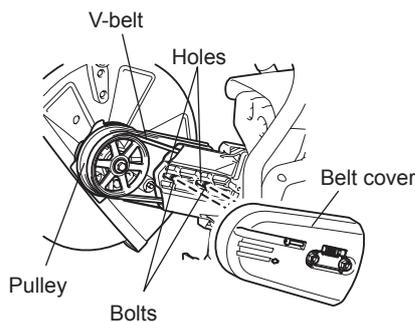

Fig. 6
- Turn over the removed cutting attachment, pass bolt through hole, and remount in direction B. Remount the V-belt to the pulley. (Fig. 6)